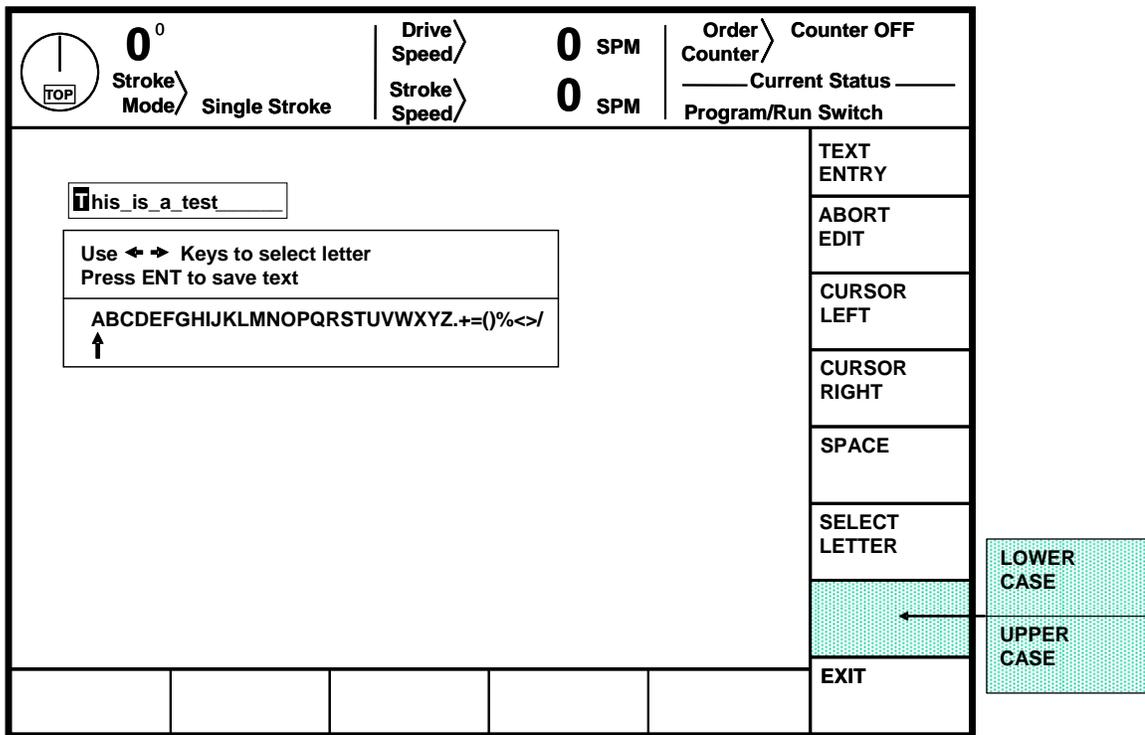

Figure 44: Example Text Entry
- 2) The topmost softkey will usually say something along the lines of **CHANGE XXXX** where **XXXX** is the name of the value to be changed. It may also simply say **CHANGE TEXT** or **CHANGE DESC**. In any case, hit this softkey to enter text entry mode. The right-hand softkeys will change, a letter selection box will appear, and the editing cursor will change to a rectangle around the text to be edited. Figure 44 shows the softkeys and an example text parameter.
- 4) Use the left and right arrow keys to point to the letter desired in the letter box next to the text being edited. This box will appear just above or just below the text to be edited depending on where it is on the screen. Hit the **SELECT LETTER** softkey to place that letter at the text cursor. In Figure 44, the text cursor is on the “T” in “This” and would be replaced with an “A”. The text cursor will automatically move to the right when a letter is selected. Note that numerals can be entered directly with the numeric keypad.